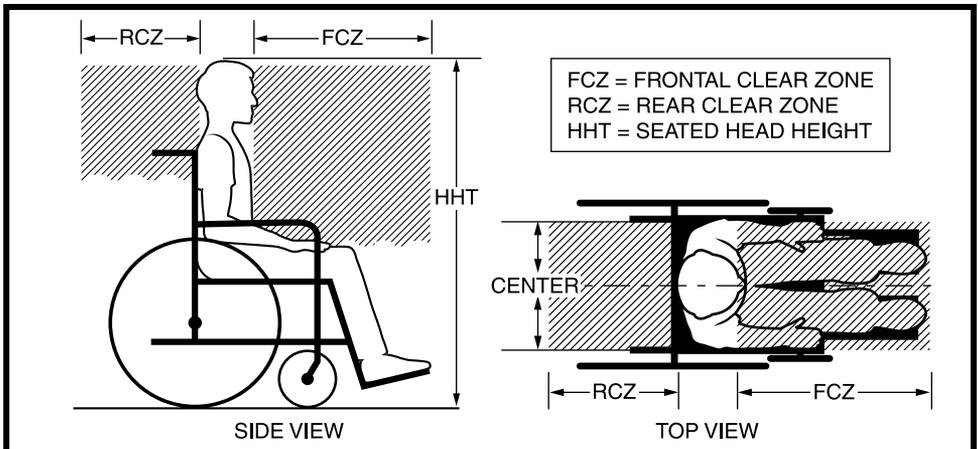

Figure 5. Recommended Clear Zones for Wheelchair-seated Occupants
- The frontal clear zone (FCZ) is measured from the forwardmost point on the occupant's head and should measure at least 26 in. (66 cm) if both a pelvic and upper-torso belt are used. See figure 5.
- The rear clear zone (RCZ) is measured from the rearmost point on the occupant's head and should measure at least 16 in. (40.64 cm). See figure 5.
- The seated head height (HHT) ranges from about 47 in. (120 cm) for a small adult female to about 61 in. (155 cm) for a tall adult male. See figure 5.